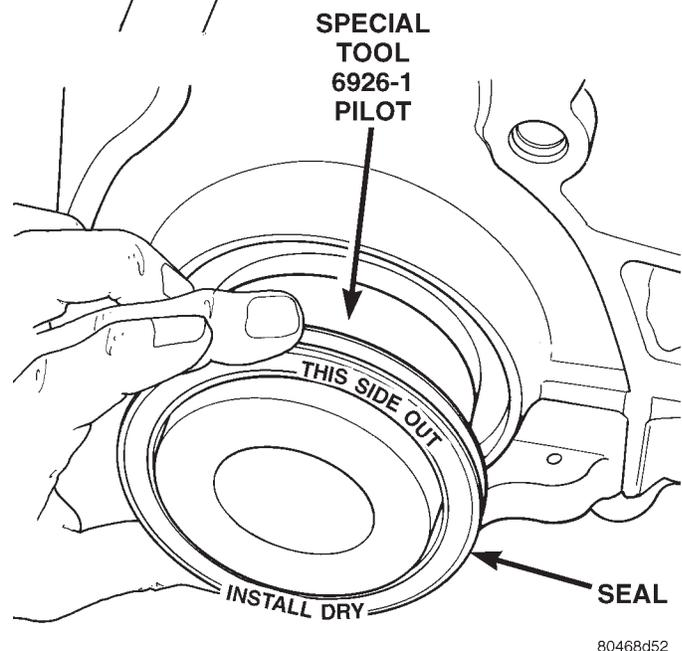

Fig. 60 Rear Crankshaft Seal and Special Tool 6926-1
(1) Place Special Tool 6926-1 on crankshaft. This is a pilot tool with a magnetic base (Fig. 60).
(2) Position seal over pilot tool. Make sure you can read the words **THIS SIDE OUT** on seal (Fig. 60). Pilot tool should remain on crankshaft during installation of seal. Ensure that the lip of the seal is facing towards the crankcase during installation.